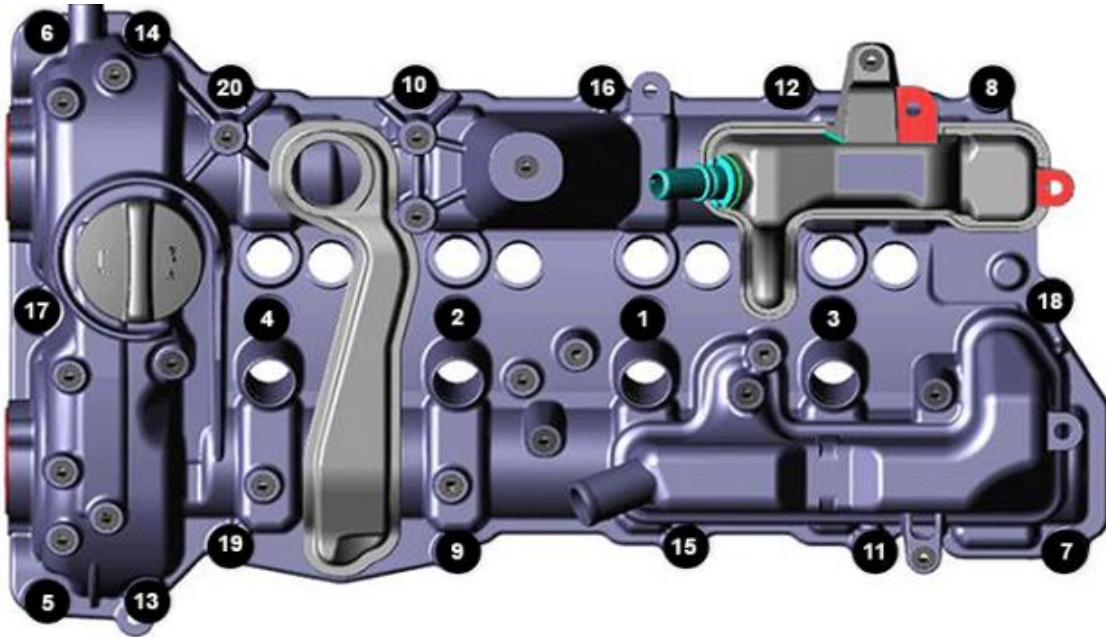

Figure 32 – Tightening Sequence
90. Tighten the twenty captured bolts in the sequence shown to 11 N·m (97 In. lbs.) (Figure 32).